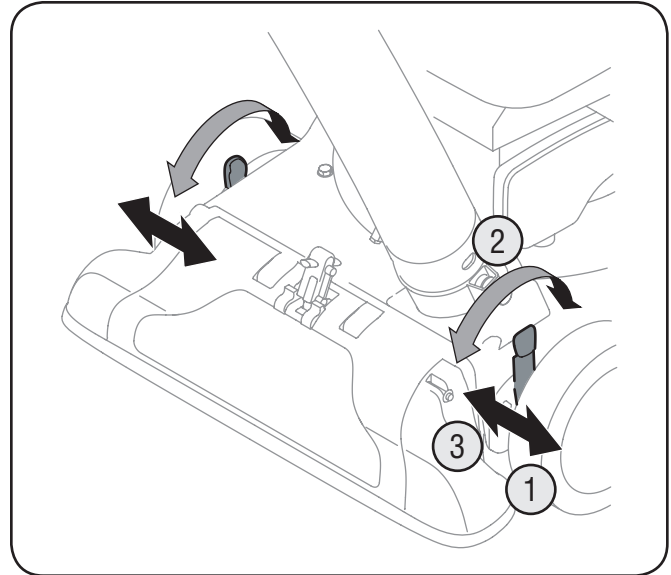

Figure 3-7
1. Depress nozzle height adjustment lever towards wheel. See Fig. 3-7.
3. Release lever towards deck. See Fig. 3-7.